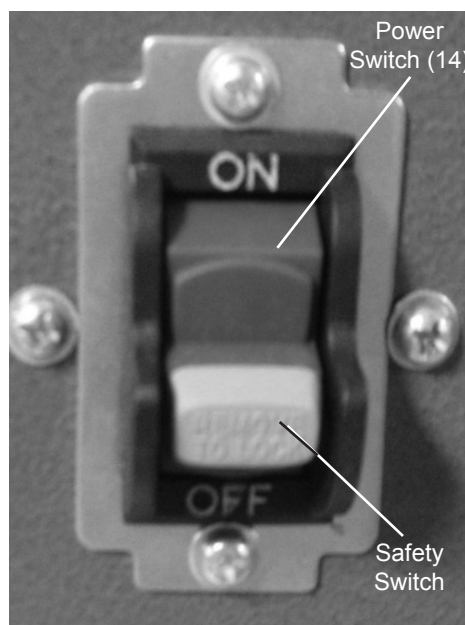

**Figure 13**
1. Loosen the Lock Screw (19) below the Tail Stock approximately half a turn counterclockwise. See Figure 13, below.